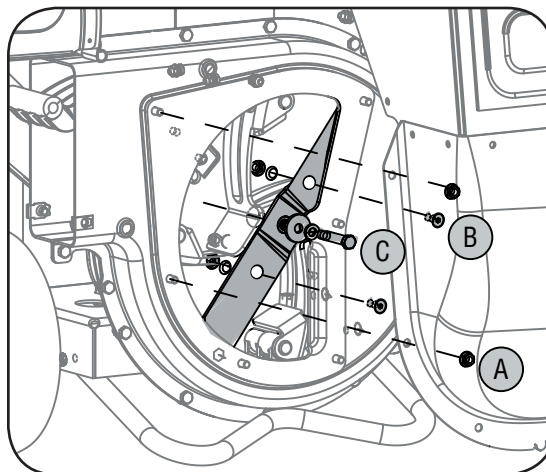

Figure 11
- c. Remove the hex bolt, lock washer, and flat washer to completely free shredder blade. See Figure 11.
- a. Remove six flange nuts which secure hopper inlet guide to impeller housing. See Figure 11.
- b. Remove the two internal hex screws, hex lock nuts, and lock washers which secure the shredder blade to the impeller. See Figure 11.